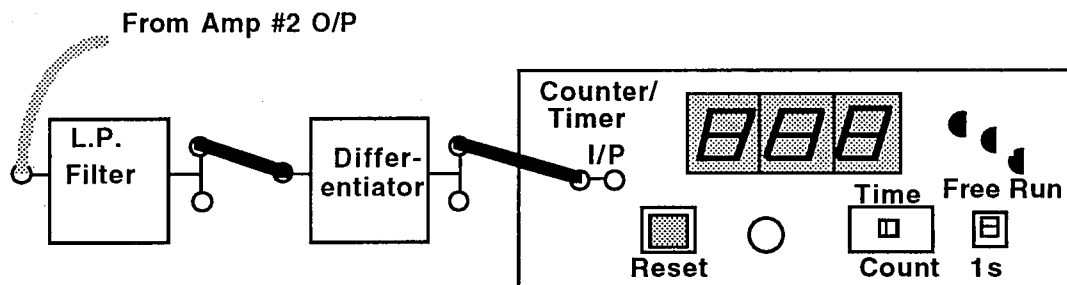

Figure 84
- Connect the output from amplifier #2 to the counter via a low pass filter and differentiator as shown in Fig 84 .